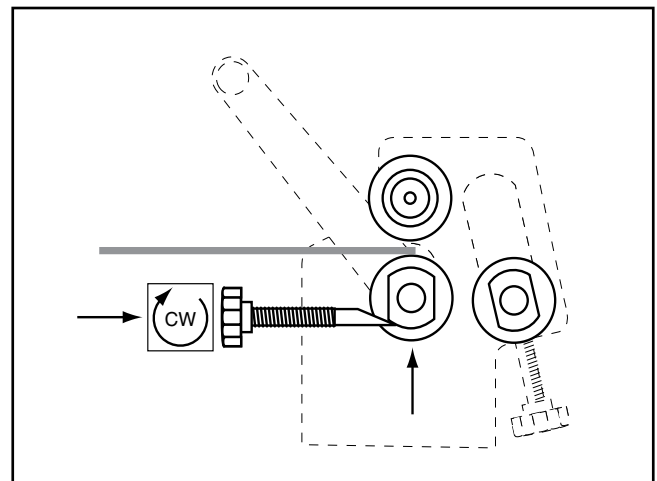

Figure 11. Raising bottom roller for flat rolling.
1. Place the workpiece between the top and bottom rollers, as shown in **Figure 11**. Turn the thickness adjustment knobs to lift the bottom roller until the workpiece is held snug between the top and bottom rollers. Be sure to turn the thickness adjustment knobs equal amounts.